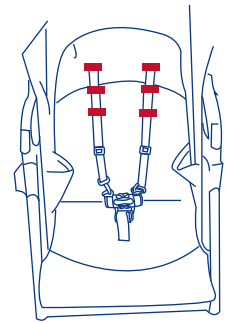

Figure 12a.
- The shoulder straps of the 5-point harness have 3 attachment positions. Select the loop position that places the shoulder strap level with, or below the top of the child's shoulder and feed the shoulder harness under the correct loop. Please see figure 12a.